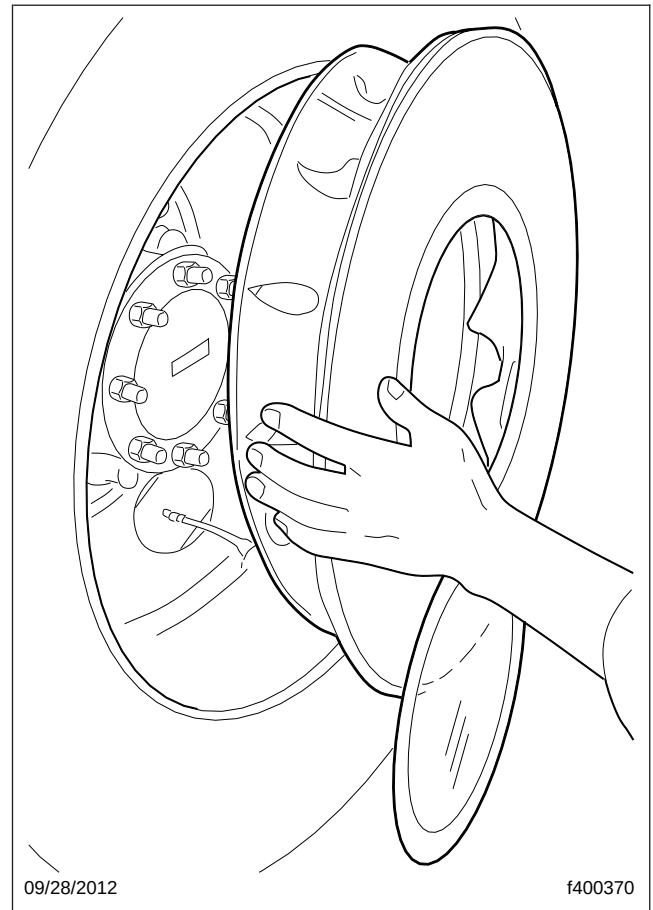

Fig. 2, Removing the Wheel Cover
3. Pull the inner V-notch opposite the valve stem to remove the wheel liner and inner retaining ring. See **Fig. 2**.